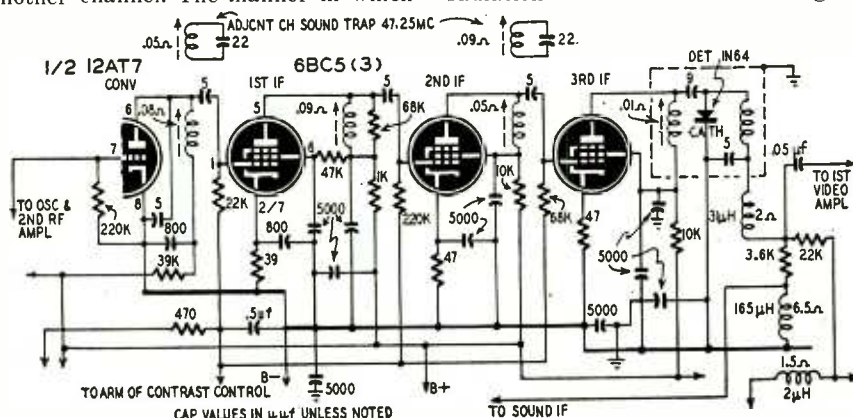

Fig. 1—Diagram of General Electric's 44-mc i.f. strip used in the 16T3, 16C113, and similar models. Two 47.25-mc traps suppress the adjacent-channel sound.
3. *Alignment:* Procedure is similar to that used at 24 mc, but the importance of short leads, even from the signal generator, becomes a dominant factor. Short leads are absolutely necessary; lead dress is critical. Bypassing to the right spot is a problem. Regeneration can be serious with some tube types (though none seems to be evident with the 12AT7 converter in the G-E adaptation). Stability and symmetry for all values of a.g.c. or contrast bias create vexing problems that require much care to solve satisfactorily. G-E solved these problems in a transformerless cold chassis type model (see Fig. 1) and RCA has developed a fine 44-mc i.f.